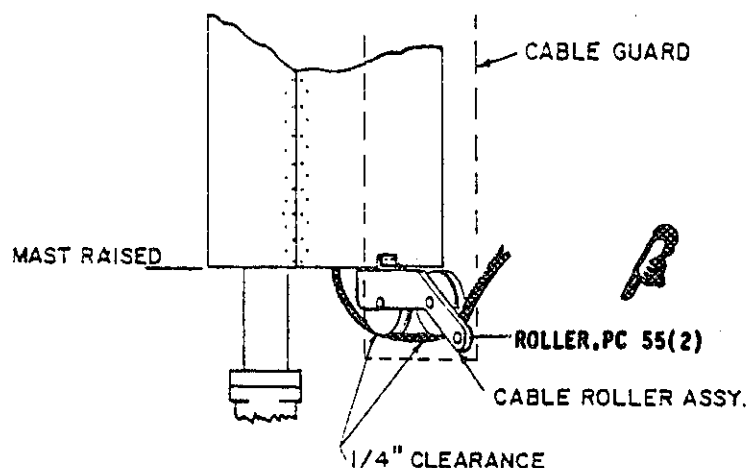
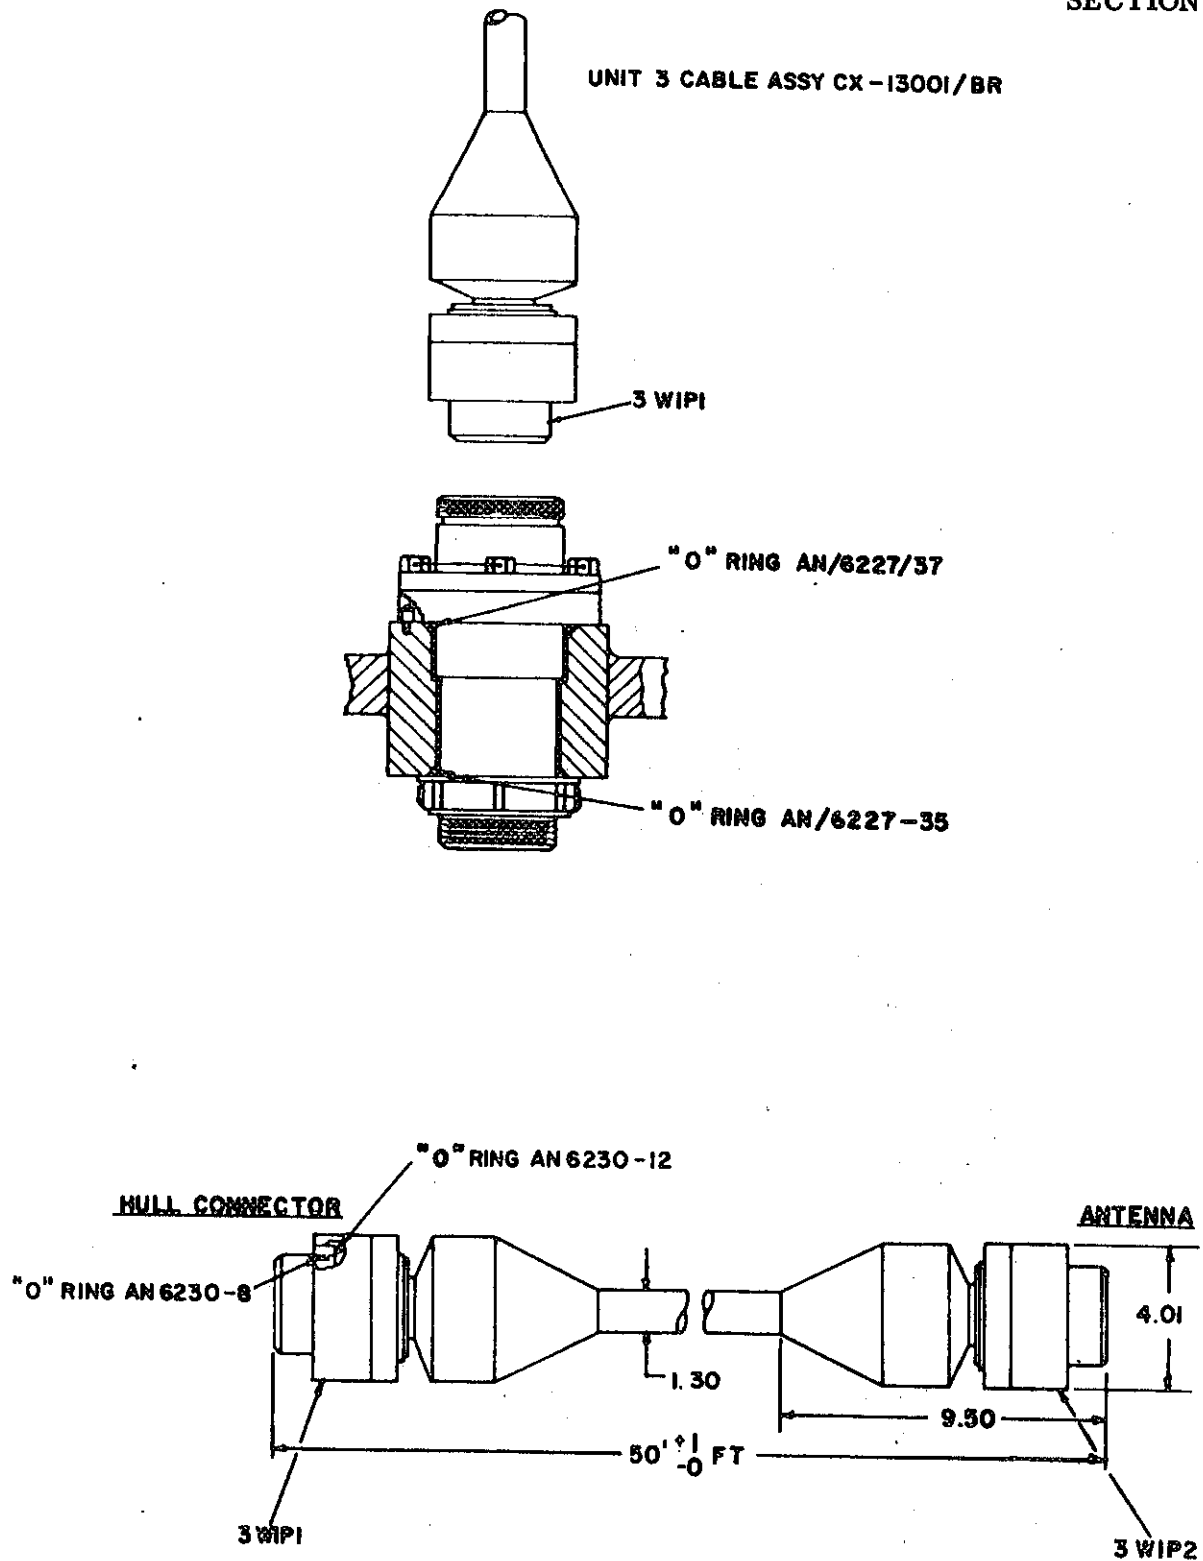

Figure 3-4. Cable Roller Assembly
Figure 3-5. Cable and Hull Fitting O-Ring Assembly.
- Step 23. Remove roller PC55 and reeve the antenna cable on the cable rollers, reassemble roller assembly and install on the bottom of the faired mast (see Figure 3-4).
- Step 24. Set the cable loop in accordance with Ref. (9).
- Step 26. Clamp the static portion of the antenna electrical cable guard (use Ref. (3), sheet 26 for guidance).
- Step 28. Clean the hull fitting connector and cable molded plug connector. Make up the antenna electrical cable connector to the hull connector. Use new O-rings, AN6230-3 and AN6230-12, and lubricate lightly with DC-4 compound. See Figure 3-5.
- Step 4. Remove the cable from the cable guard and cable roller assembly at the bottom of the mast. See Figure 3-5.